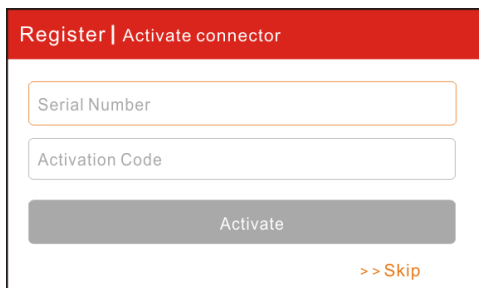

Fig. 4-4
B. Activate the VCI module: In Fig. 4-4, input the Serial Number and Activation Code, which can be found in the password envelope.